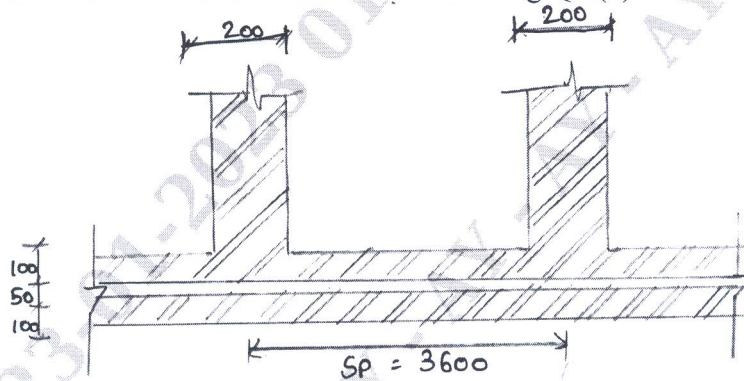

Fig.Q.6(b)
b. Design an interior wall of three storeyed building – the ceiling height of each story being 3m. The wall is stiffened by intersecting wall 200mm thick at 3600mm c/c. Take load from roof = 16kN/m, load from each floor = 12.5kN/m. Refer Fig.Q.6(b). (10 Marks)